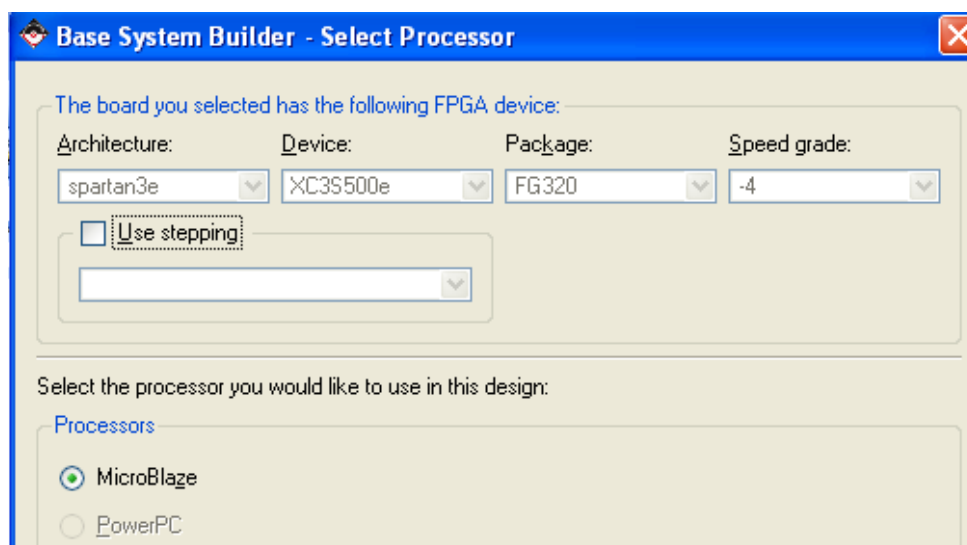

Figure 1-6. Select Processor Dialog Box
- 6 In the **Select Processor** dialog, leave the default **MicroBlaze** option (**Figure 1-6**) and click **Next**.